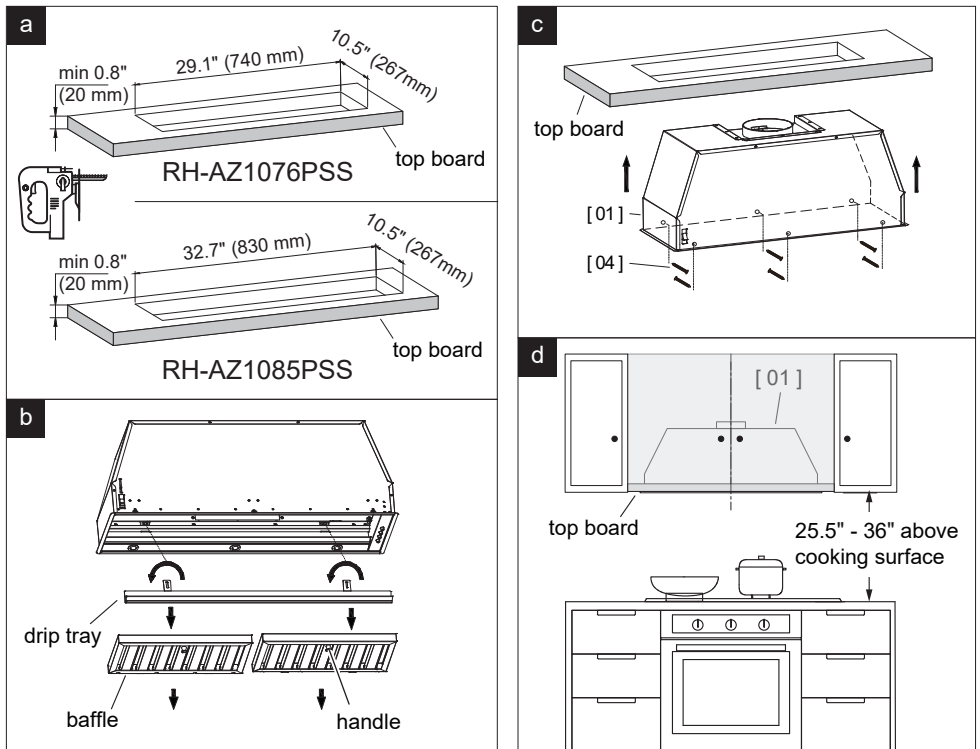

Fig 2
1. Cut an 29.1"x10.5" opening for **RH-AZ1076PSS**, 32.7"x10.5" opening for **RH-AZ1085PSS** on the **top board** where the **Range Hood [01]** is installed as Fig 2.a shows. Make sure the thickness of the **top board** is no less than 0.8". (Fig 2.a)
2. Remove the **baffles** from the **Range Hood [01]** by pushing the **handles** until the **handles'** side of **baffles** aren't block by the edge of **Range Hood [01]** and pulling the **handles** downward to remove. (Fig 2.b)
3. Remove the **drip tray** by loosening the screws from the inside of the **Range Hood [01]**. (Fig 2.b)
4. Push the **Range Hood [01]** into the **top board**. (Fig 2.c, Fig 2.d)
5. Hold the **Range Hood [01]** in position and secure with **#7 x 0.98" Screws [04]**. Make sure the **Range Hood [01]** is flush with the **top board**. (Fig 2.d)